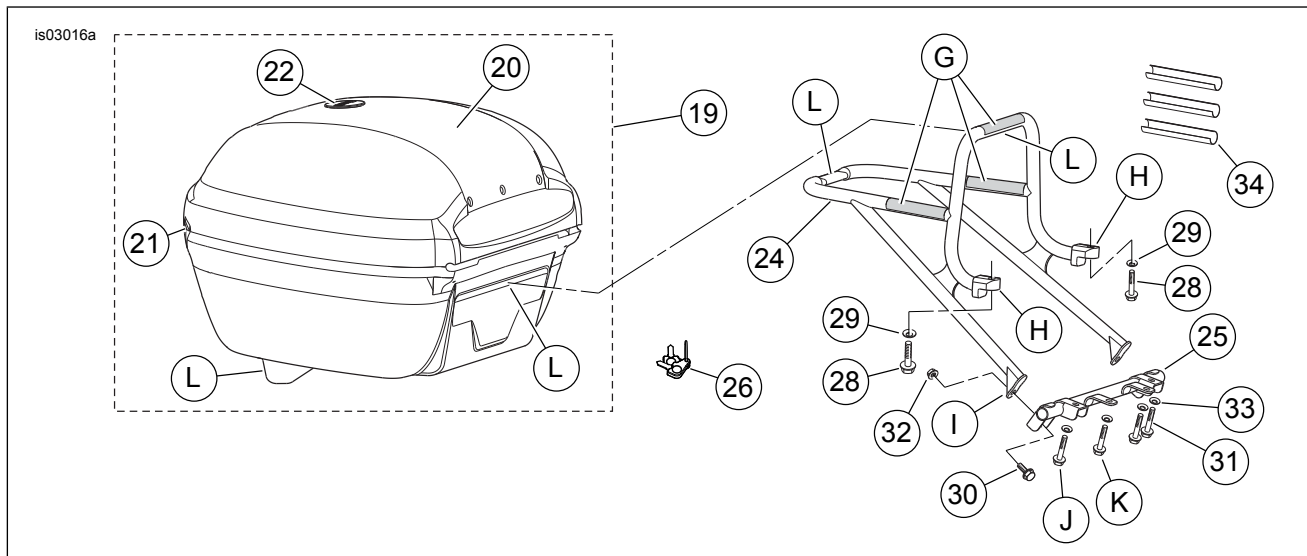

Figure 7. Service Parts, Top Case Kit
3. See Figure 7. Assemble four 1/4-20 x one inch long hex head screws (31) and four smaller Belleville washers (33) from the Top Case Kit. From the underside, insert two of the screws (with Loctite applied) through the inner mounting holes (K) of the top-case lower mounting cross-bar (25), trunk pan and tail loop, into the threaded fasteners in the seat latch bracket. Do not fully tighten at this time.
4. Insert the remaining two screws (with Loctite applied) through the outer mounting holes (J) of the cross-bar, the forward grab handle slots and into the threaded holes in the underside of the tail loop. Do not fully tighten.